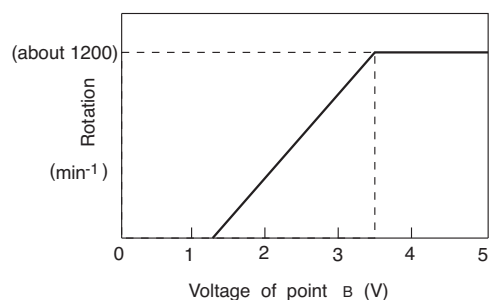

Fig. 5-3
- This pulse changes to analog voltage by R751 and C751 and it is applied to the fan motor as instruction voltage number of rotations. The relationship between the voltage of point ②B and number of rotations becomes as shown in Fig.5-3. (The gap may arise depending on the condition of unit.)
- The feedback pulse of number of rotation is outputted from the fan motor and input to microcomputer pin ④⑭. The frequency of this pulse is 12/60 of the number of rotations. (Ex: 1000min⁻¹ X 12/60=200Hz) The microcomputer observes this frequency and to make it as the instruction number of rotation all the time, adjusts the output pulse width of pin ④⑩.